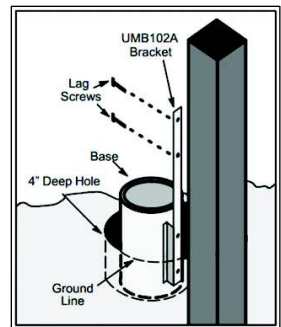

Figure 2 Pole Mount, Round Base
5. **POLE MOUNT (round or rehab base):** Position the bracket on the pole so that the ground line marker is at the final grade level. Fasten the bracket to the pole with the lag screws provided (Figure 2).